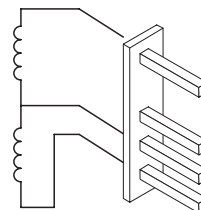

Figure 11.12
- 3 Measure the electrical resistance between the connector pins of the on-off operators as illustrated in Figure 11.12.